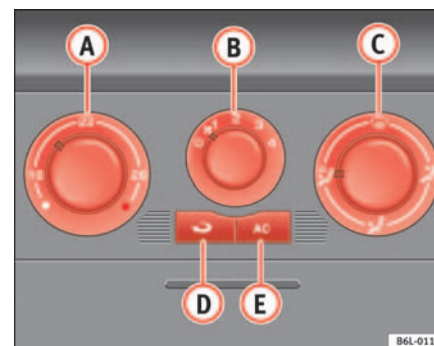

Fig. 86 On the instrument panel: air conditioner controls
- Using the controls ⇒ fig. 86 **A** and **C** and with the switch **B** you can set the temperature, air distribution and the blower speed.